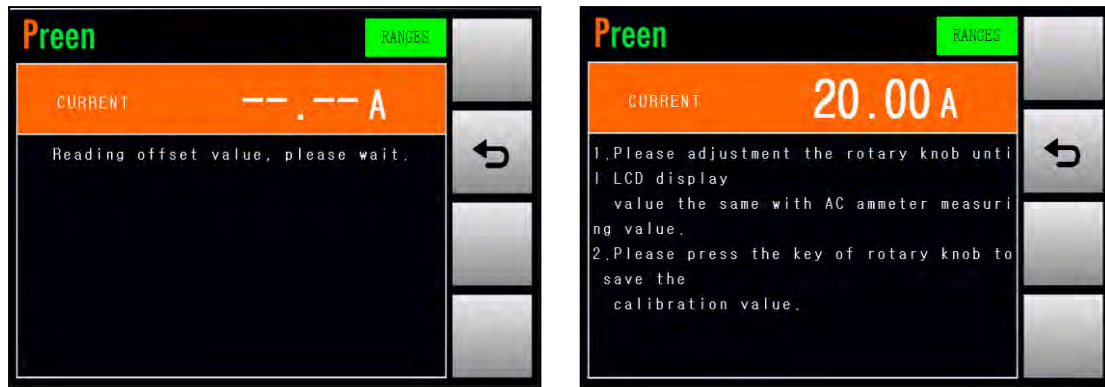

Figure 4.20 Enable the calibration of the output socket current
3. Press the output & reset button on the front panel to enable the calibration of the output socket current (refer to Figure 4.20), and then the product will start to output the voltage which is closed to 100V.